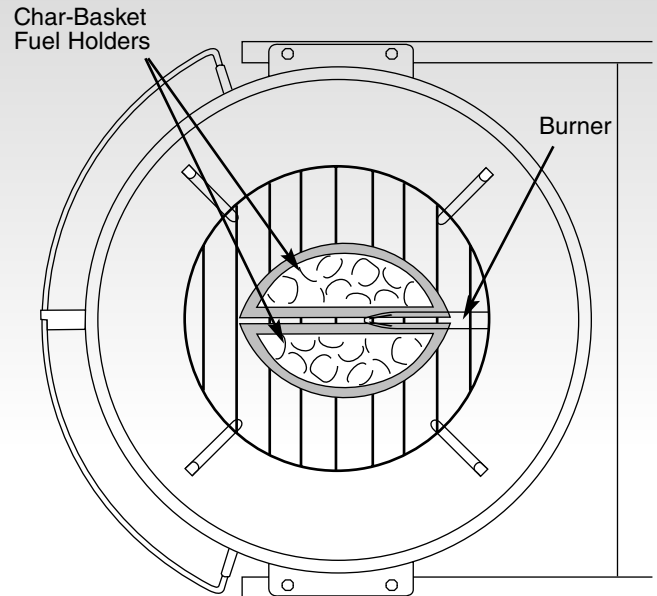

Figure 3
- 4) Position filled Char-Baskets over burner. Figure 3.